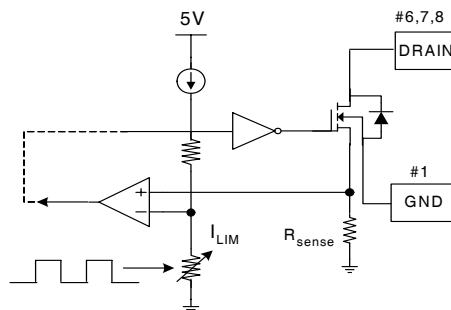

**Figure 6. Over Load Protection (OLP)**
**4.1 Over Load Protection (OLP):** Overload is defined as the load current exceeding a pre-set level due to an unexpected event. In this situation, the protection circuit should be activated in order to protect the SMPS. However, even when the SMPS is operating normally, the Over Load Protection (OLP) circuit can be activated during the load transition. In order to avoid this undesired operation, the OLP circuit is designed to be activated after a specified time to determine whether it is a transient situation or an overload situation. In conjunction with the  $I_{pk}$  current limit pin (if used) the current mode feedback path would limit the current in the Sense FET when the maximum PWM duty cycle is attained. If the output consumes more than this maximum power, the output voltage ( $V_o$ ) decreases below its nominal voltage. This reduces the current through the optocoupler LED, which also reduces the feedback voltage ( $V_{FB}$ ). If  $V_{FB}$  exceeds 3V, the feedback input diode is blocked and the  $5\mu A$  current source ( $I_{DELAY}$ ) starts to slowly charge  $C_{fb}$  up to  $V_{cc}$ . In this condition,  $V_{FB}$  increases until it reaches 6V, when the switching operation is terminated as shown in Figure 6. The shutdown delay time is the time required to charge  $C_{fb}$  from 3V to 6V with  $5\mu A$  current source.